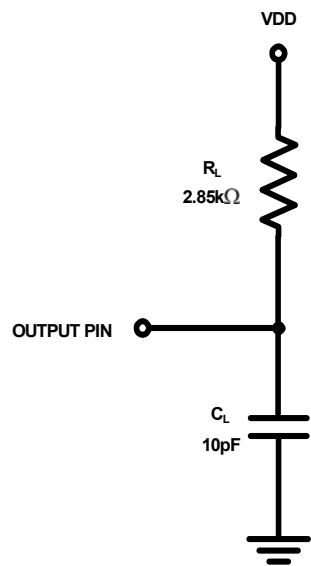

FIGURE 4. EQUIVALENT LOAD CIRCUIT
14. During characterization, $t_{DISABLE}$ is measured from the release point with a 10pF load (see Figure 4).